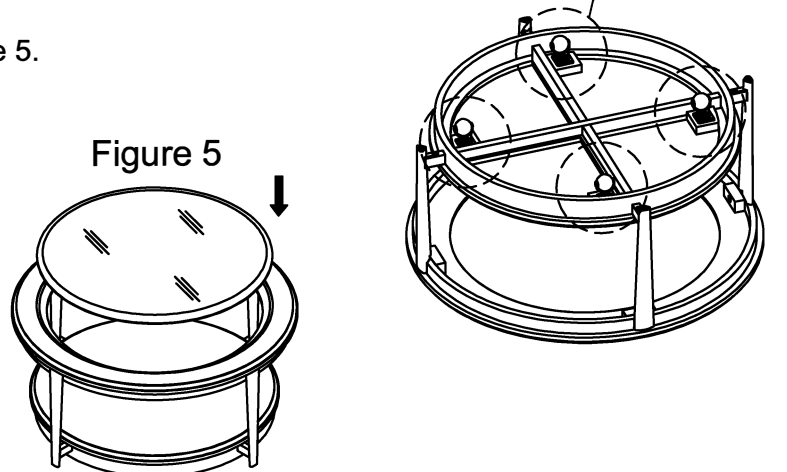

Figure 5
5. Turn the table upright and carefully place the glass top to the top frame as show in Figure 5.